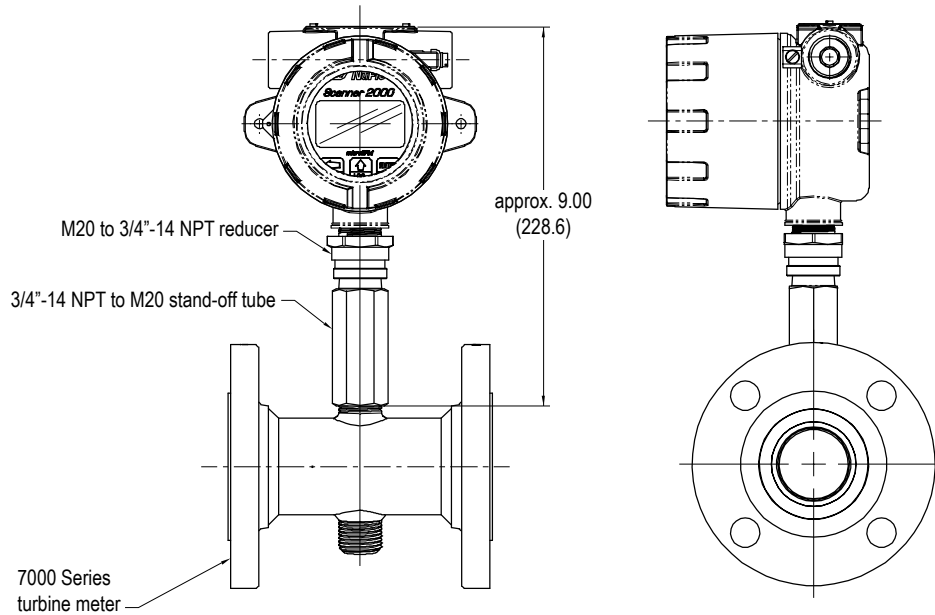

Figure 2.3—Scanner 2000 direct-mounted to a Barton 7000 Series flowmeter (ATEX-approved only when direct-mounted to a Barton 7000 Series flowmeter)
- Direct-mount to a turbine meter. The CSA-certified instrument can be mounted to a turbine meter using a pipe adapter and union connection (Figure 2.2, page 28). The ATEX-certified instrument can be mounted to a Barton 7000 Series meter using a turbine meter pickup extension (Figure 2.3, page 29).